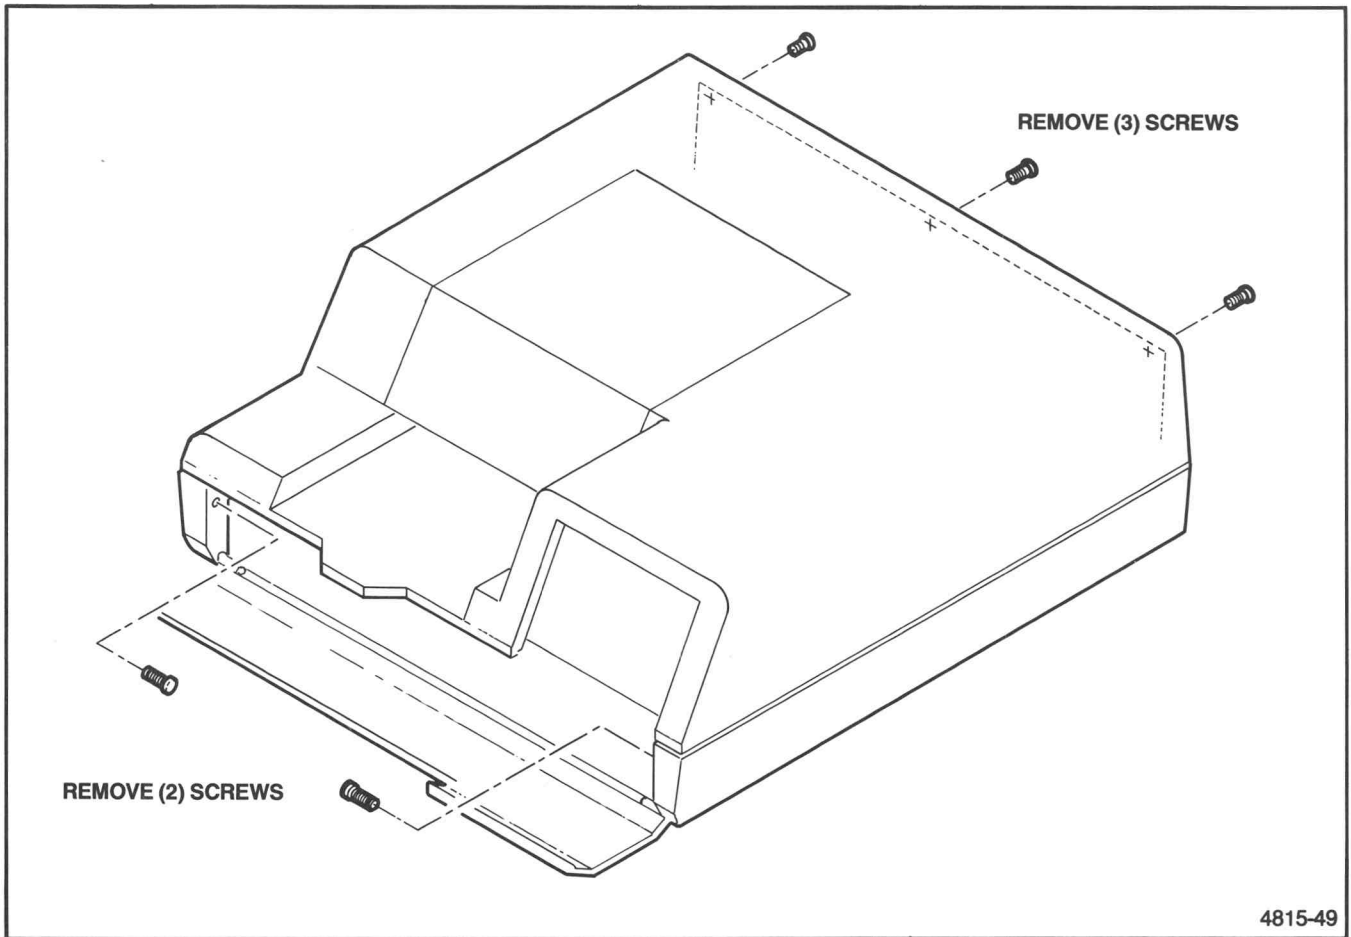

Figure 6-1. Top Cover Attaching Screws.
2. Remove the three screws across the top of the rear panel. See Figure 6-1 for the location of these screws.
4. Remove the two screws from the front mounting brackets. See Figure 6-1 for their location.